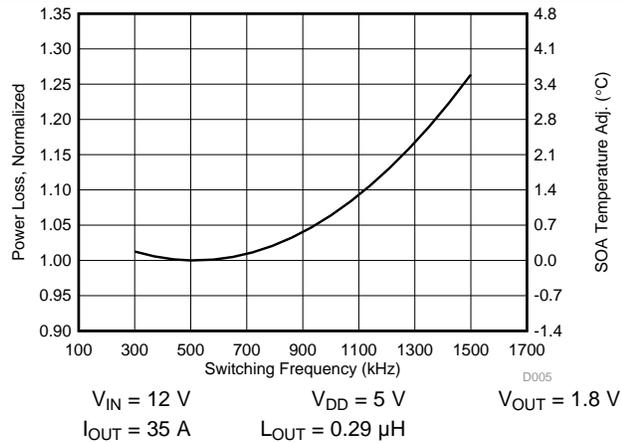

Figure 8. Normalized Power Loss vs Frequency
- Normalized power loss for switching frequency \approx 1.02 (Figure 8)
- SOA adjustment for switching frequency \approx 0.3°C (Figure 8)